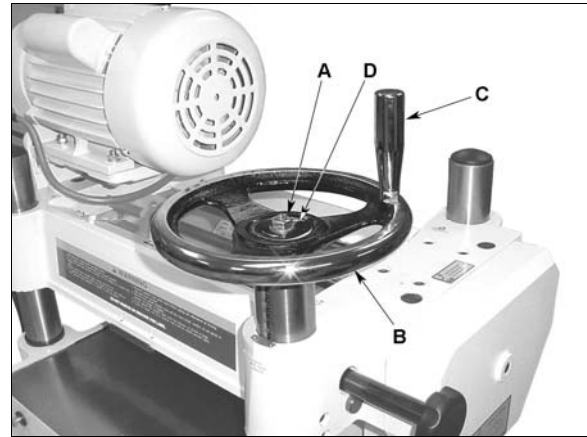

Figure 4
2. Place the handwheel (B, Fig. 4) onto the shaft; making sure it is oriented so the handwheel slips over the key.
3. Remove the adhesive backing from the direction label supplied with the hardware bag for the handwheel. Place the label onto the shaft and press it on the handwheel (D, Fig. 4).
5. Mount the handle (C, Fig. 4) for the handwheel in the threaded hole in the handwheel, and tighten with a wrench placed over the flat (12mm) on the handle.